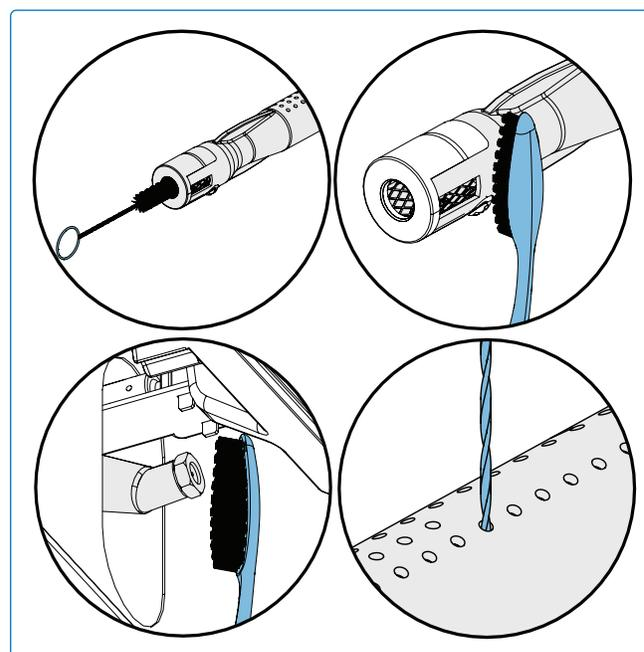

Fig. 15
2. Clean the inside of the burner using a flexible venturi tube brush. Shake loose debris from the burner through the gas inlet (**Fig. 15**).